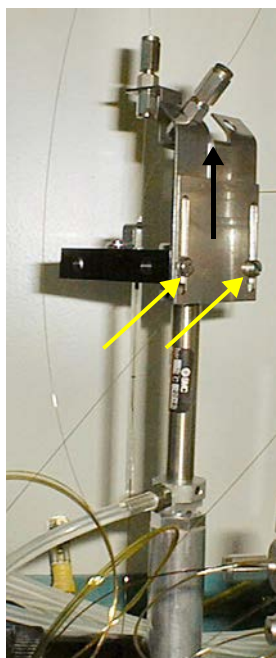
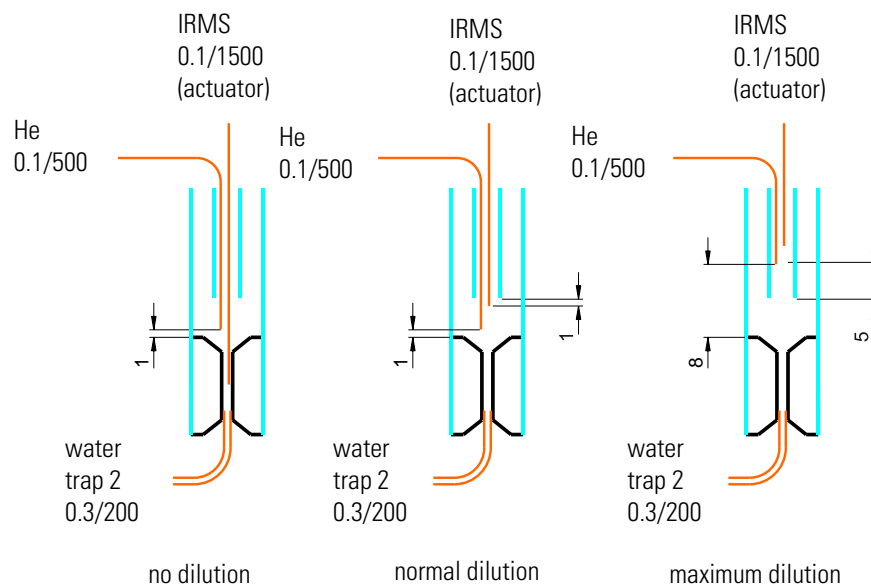

Figure 6-2. Adjusting open split for blanking
Figure 6-3. Principle of blanking
2. Move the small metal plate that limits the movement of the pneumatic lever of the autodilutor fully upwards. See arrows in Figure 6-2.
Additionally, the capillary feeding the split with helium needs to be retracted into the inner glass tube. See Figure 6-2 and Figure 6-3.